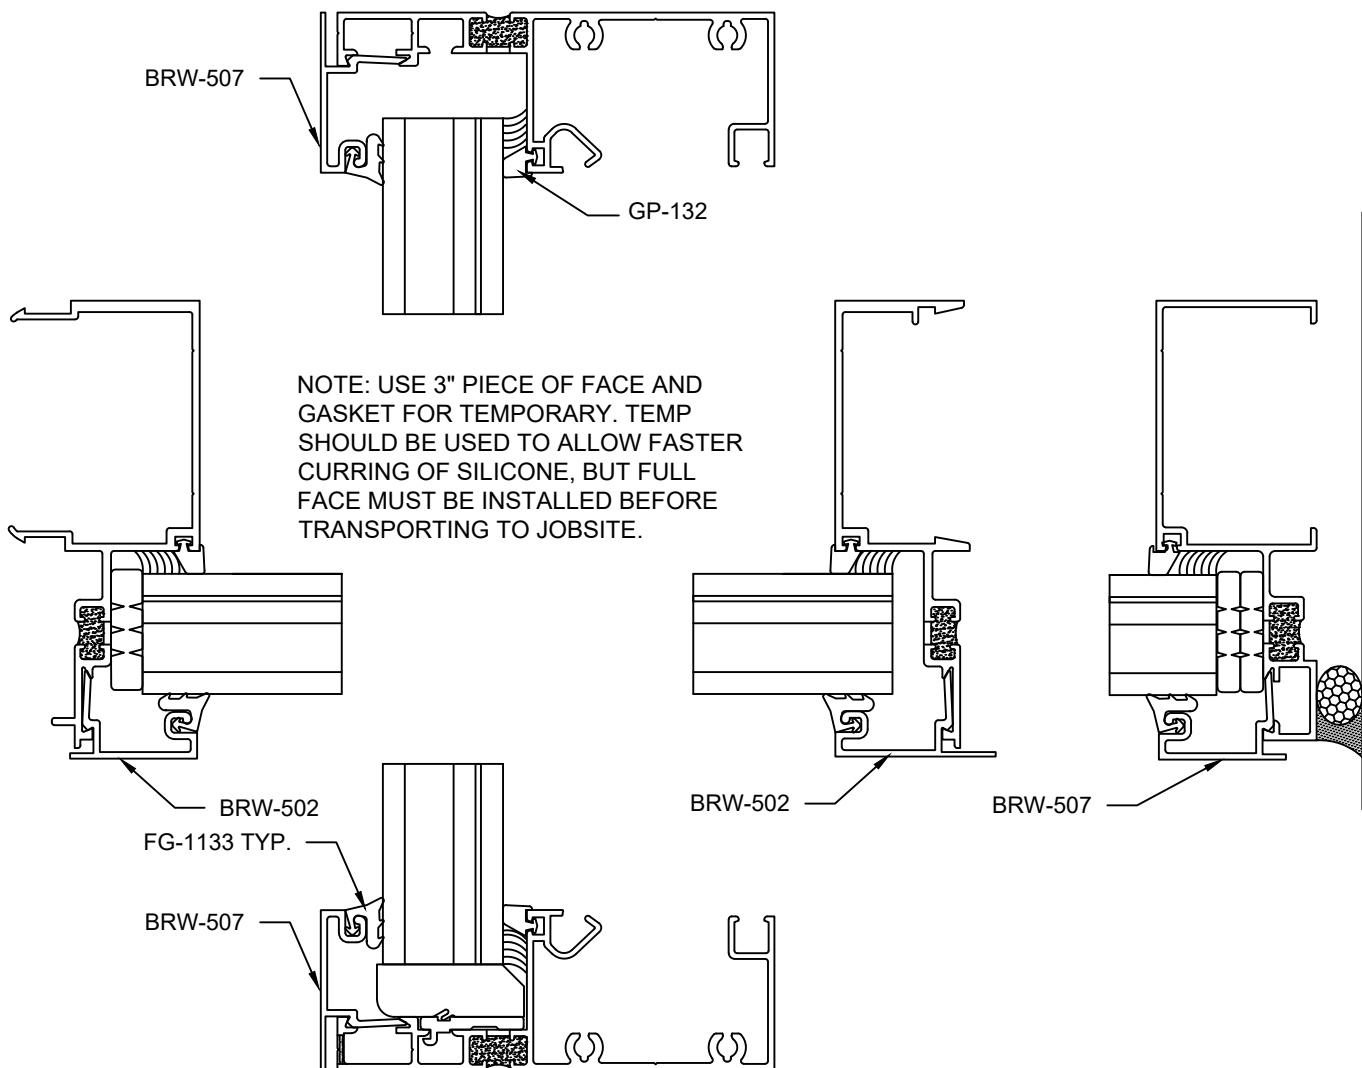

FIGURE 12
- 3.7 Exterior gasket FG-1133 should then be installed around perimeter of unit. Gasket should be run before units are transported. See FIGURE 12, page 13.